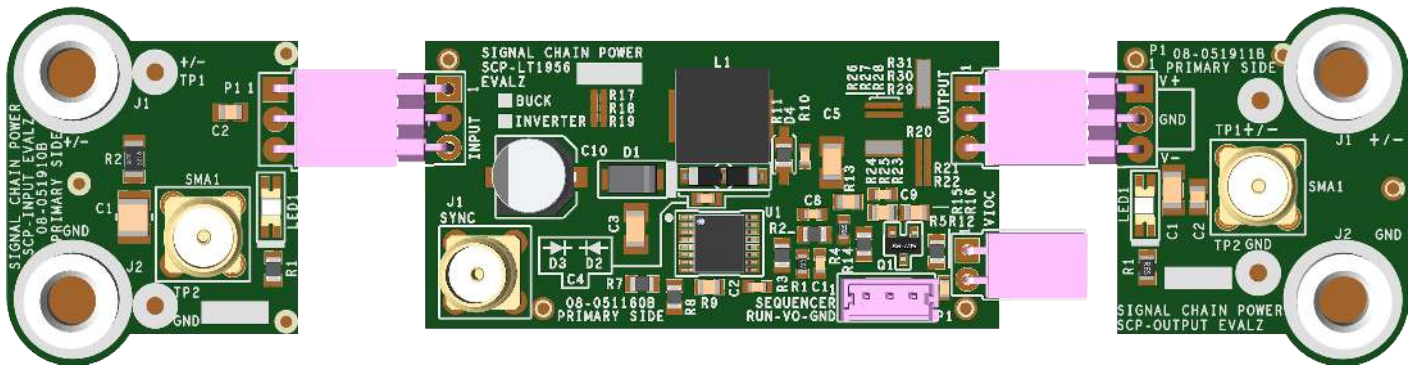

Figure 2. Proper Measurement Equipment Setup (Use SMA connectors for Measuring Input or Output Ripple)
2. Connect the SCP-INPUT-EVALZ and SCP-OUTPUT-EVALZ boards to the SCP-LT1956-BEVALZ (refer to Figure 2) and connect the input board to a voltage source, V_{SOURCE} . Connect the output board to a voltmeter or dynamic load. Slowly raise the input voltage until the SCP-LT1956-BEVALZ powers up into regulation and sweep V_{SOURCE} through the desired range of operation.